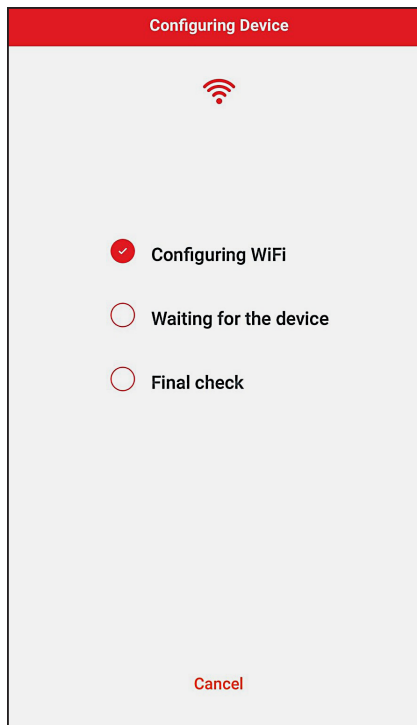

Figure 93. Configuring Device
6. The Raymote mobile app will provide the Wi-Fi network credentials to your unit. See Figure 93.